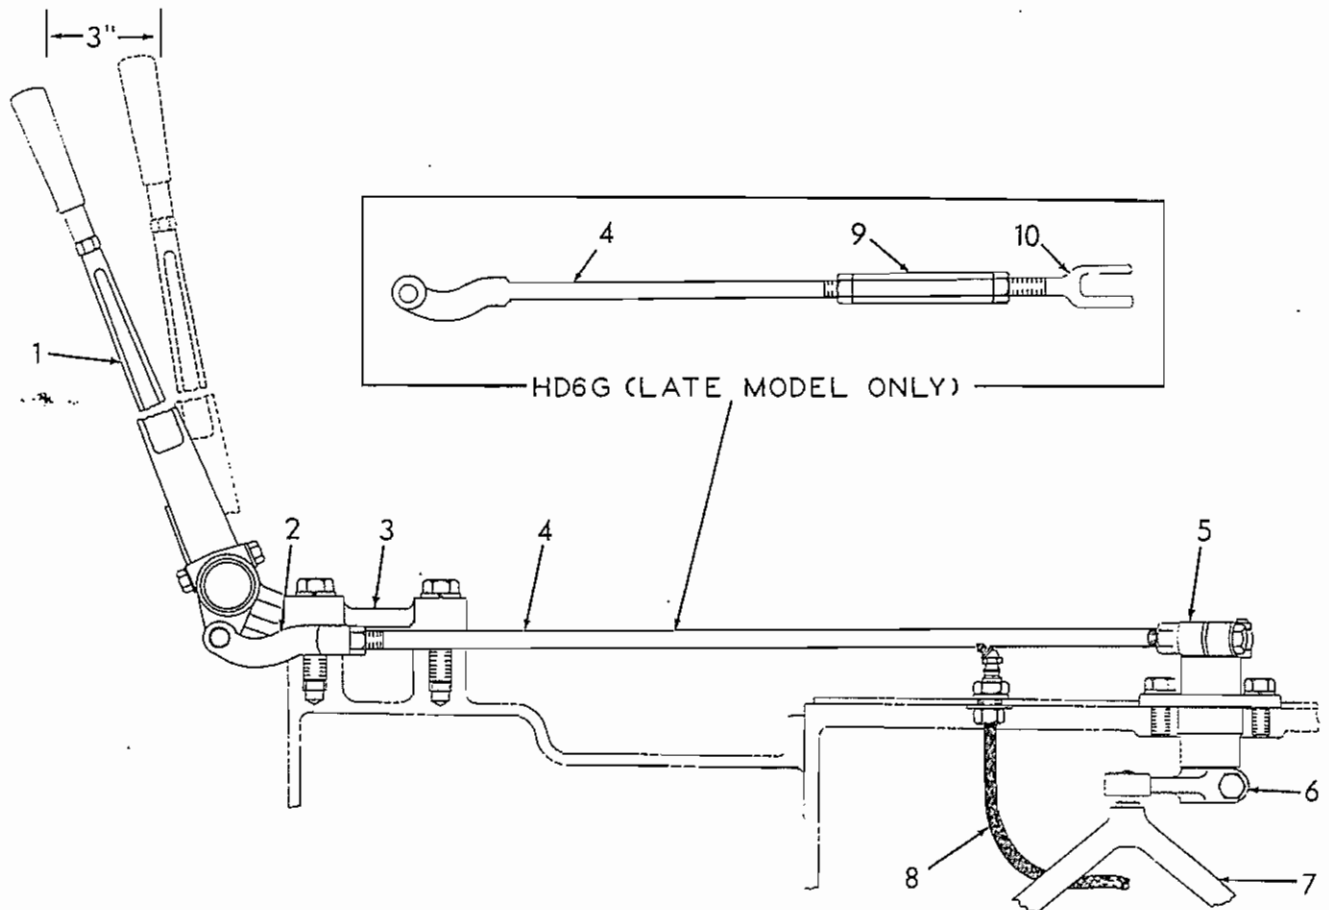

Fig. 19 -- HD6 Steering Control Linkage
Refer to Fig. 19 and adjust length of steering control rod (4) to obtain 3" free travel at top of steering lever (1); adjust length of rod by turning front yoke (2) or on HD6G-late models only, by turning adjusting nut (9). Subsequent adjustments should be made when free travel has diminished to 1". When all adjustment in control rod (4) has been used, and free travel has diminished to 1", steering clutches need rebuilding.